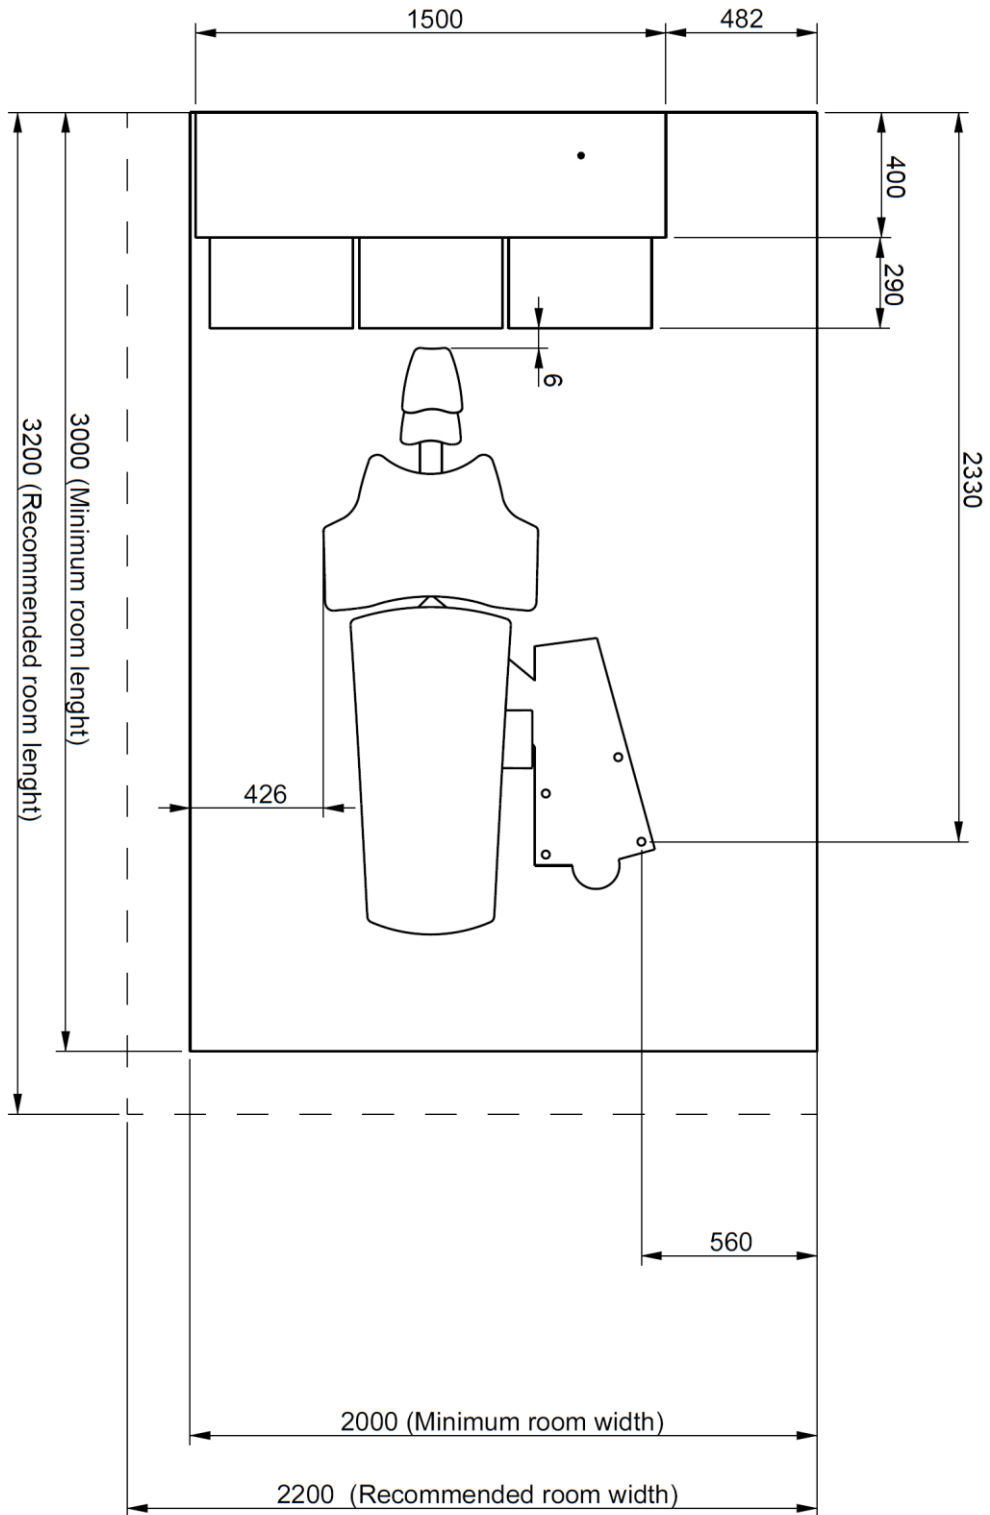

Figure 5 – Plan of installation XO WORKTOP and XO unit (all measures in mm)
XO WORKTOP can be used in an operatory equal to or larger than the dimensions listed in Figure 5.
- J. Position XO WORKTOP in relation to the unit as shown in Figure 5.